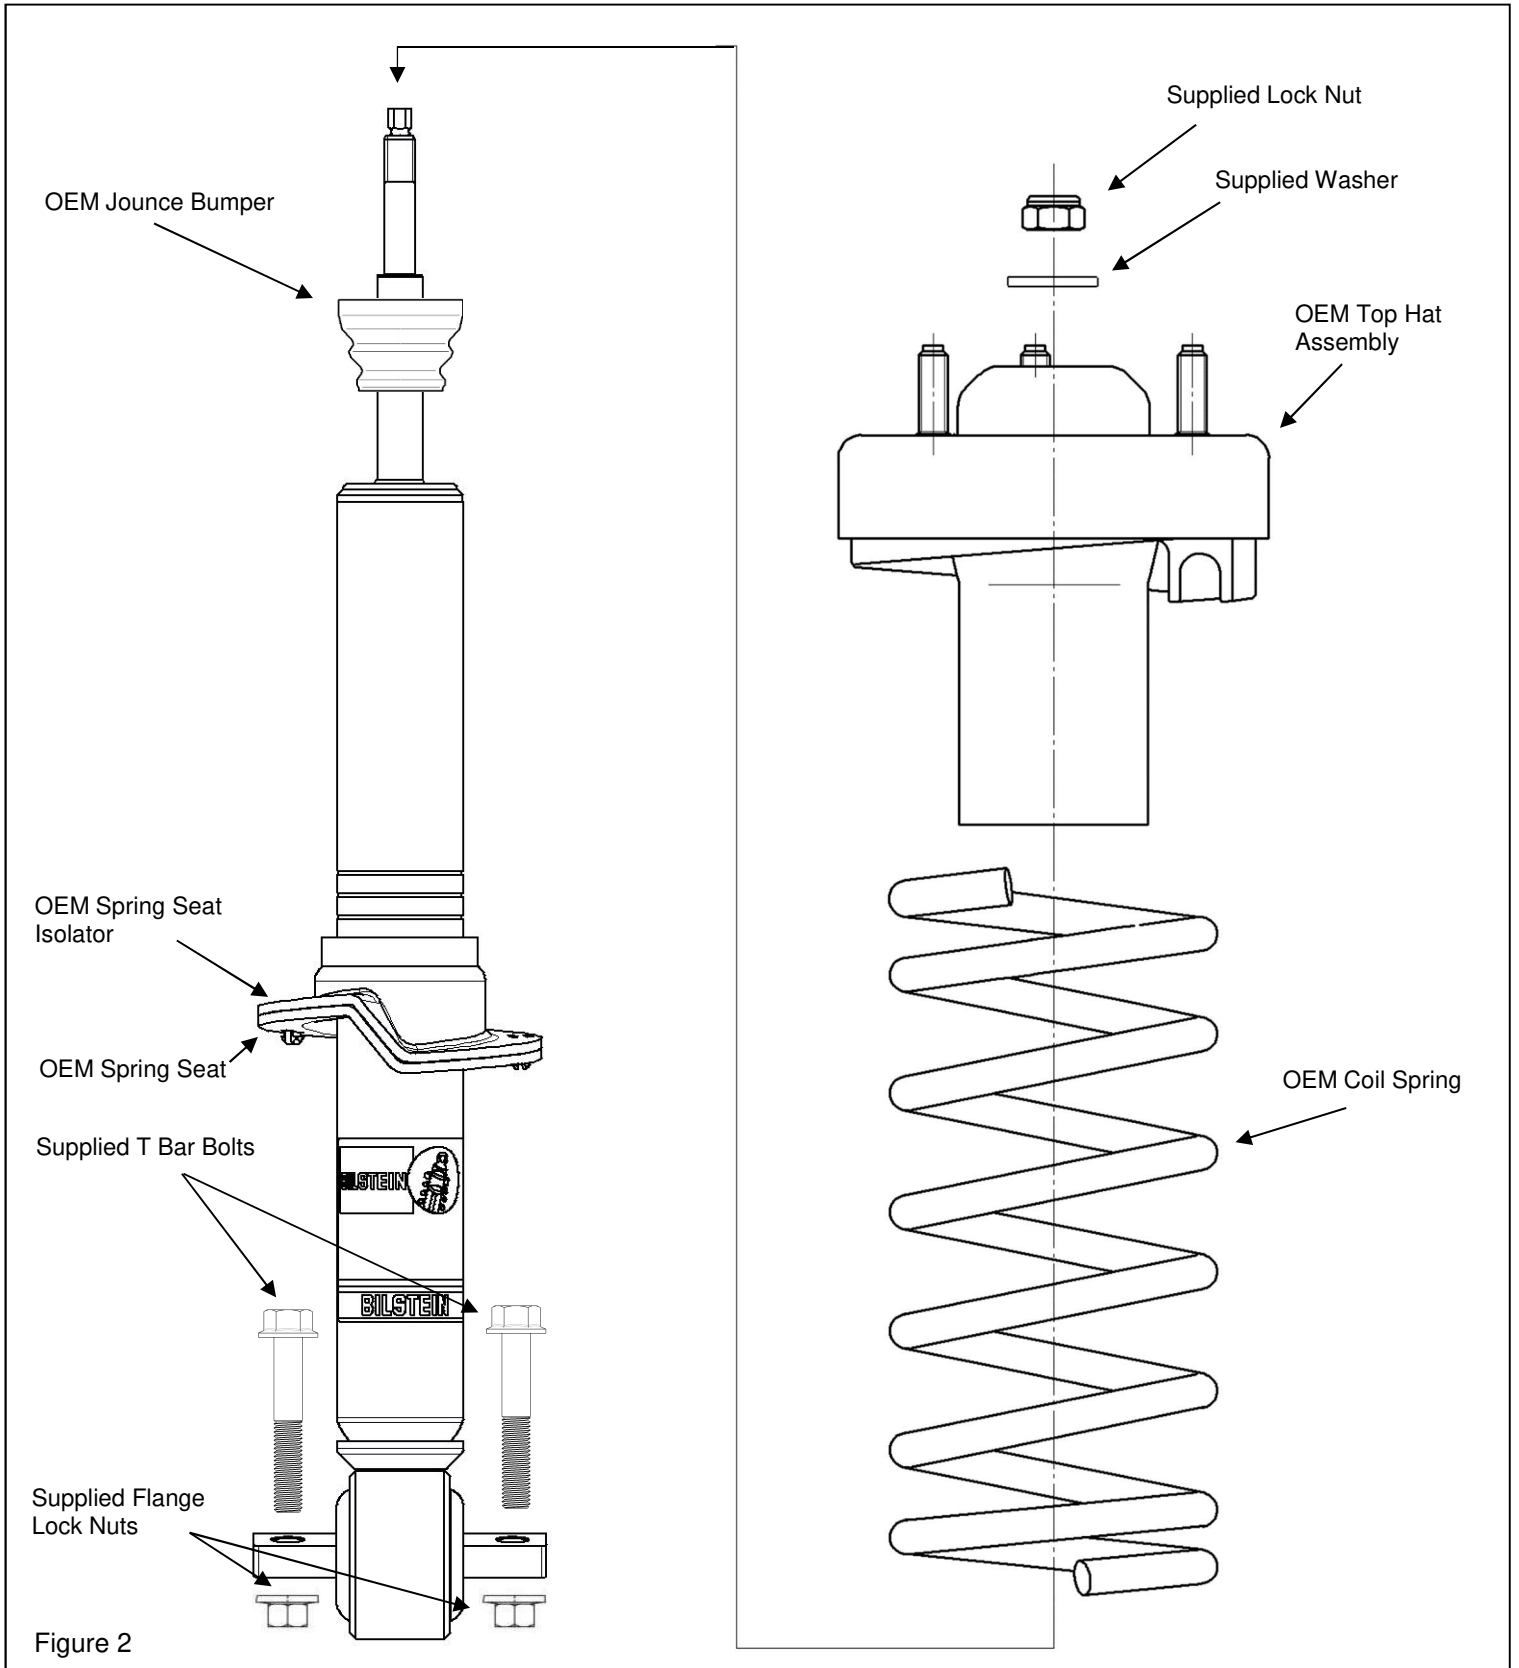

Figure 2
- G. Install the OEM top hat assembly (which includes the OEM dust boot, OEM top mount plate, and OEM jounce bumper) over the threaded stem on the new Bilstein shock and on top of the spring. Refer to Figure 2.